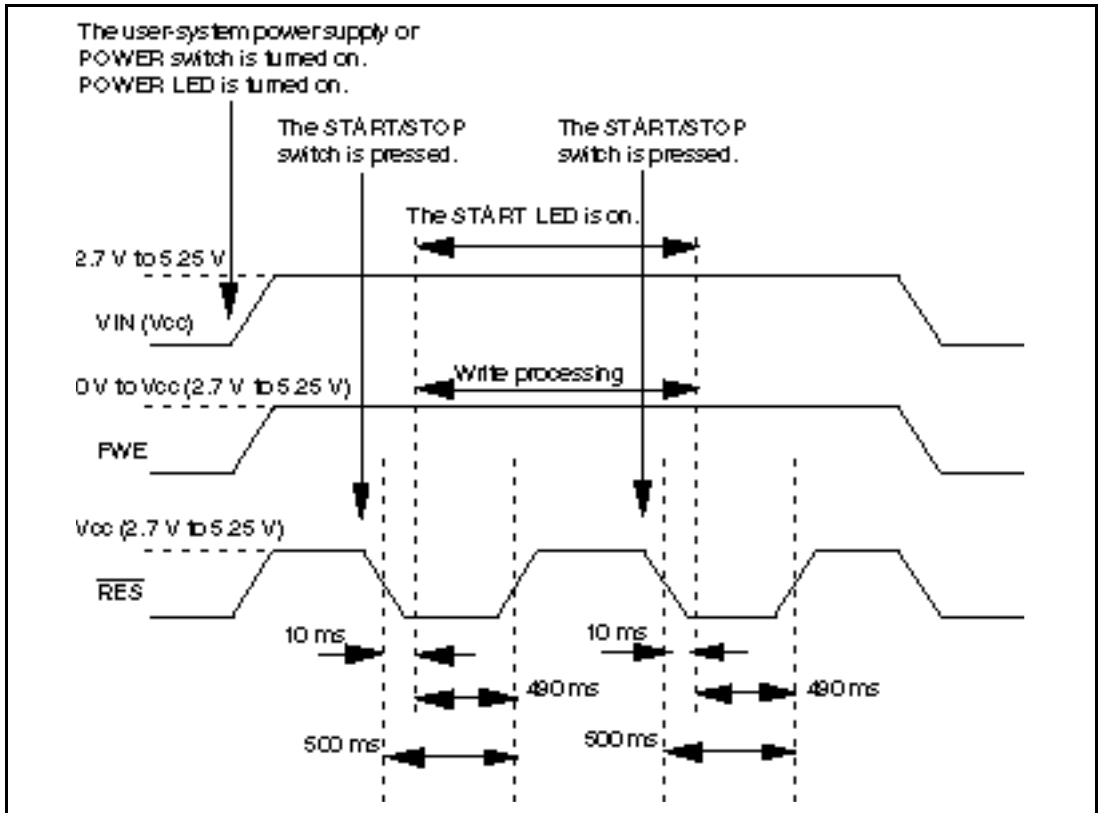

Figure 5.1 Reset Signal, 2.7- to 5.25-V Application, and Stop Timing
2. After 10 ms of the falling edge of the RES signal, 2.7- to 5.25-V application to the FWE/FWP pin starts or stops (figure 5.1).